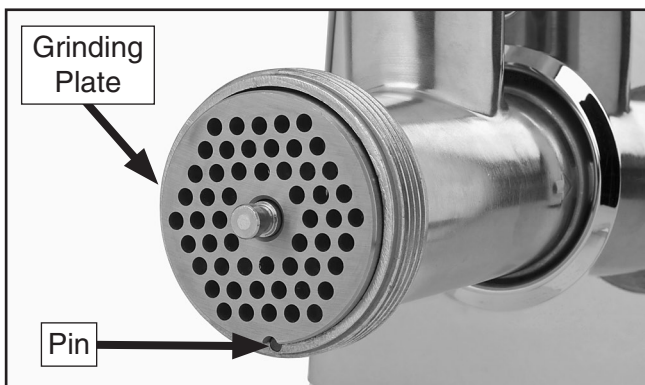

Figure 7. Grinding plate installed.
- Insert a grinding plate onto the end of the auger, aligning the notch in the plate with the pin on the grinding head, as shown in **Figure 7**.